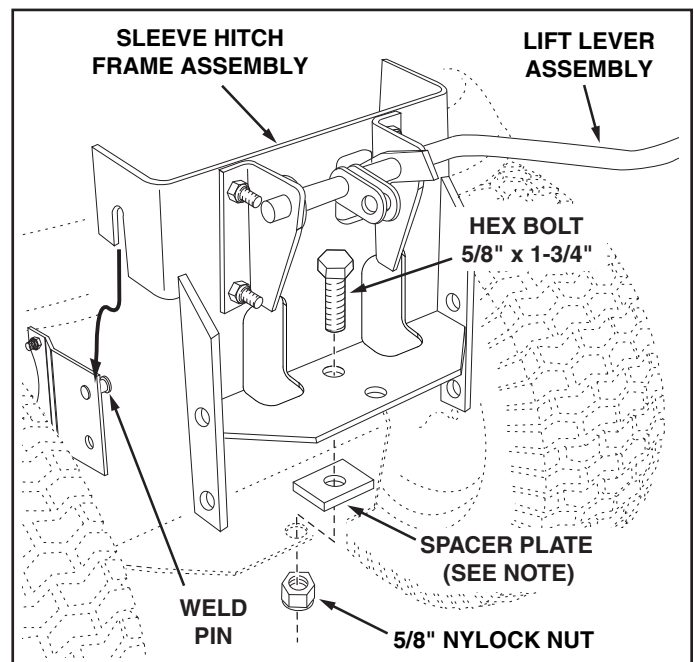

FIGURE 2
STEP 1: (SEE FIGURE 2)
STEP 2: (SEE FIGURE 2)